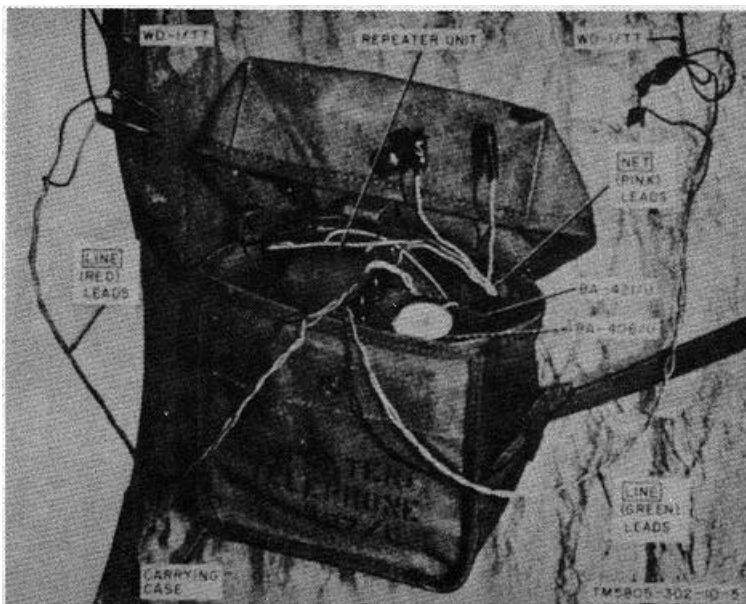

Figure 4. Repeater, Telephone TA-287/U, typical mounting.
a. *Mounting* (fig. 4). Mount the telephone repeater on a suitable support (tree, post, or pole)
- (1) Drive a nail into the support.
- (2) Hang the carrying case on the nail. Use the flap and eyelet located on the back of the carrying case.
- (3) Wrap the carrying strap around the support and fasten it with the buckle to secure the telephone repeater to the support.
c. Connections (fig. 4). Check to see whether the telephone repeater is to be a terminal or an intermediate telephone repeater.
- (1) If the telephone repeater is located between 1 1/2 and 3 miles from the end of the line, splice the NET (pink) leads to the terminal end field wire pair. Splice the LINE (red) leads to the line side field wire pair. Be sure to tape the ends of the green lead to prevent shorting.
- (2) If the telephone repeater is located approximately 6 miles from the end of the line or is used as an intermediate repeater, splice the LINE (red) leads to one of the field wire pairs and the LINE